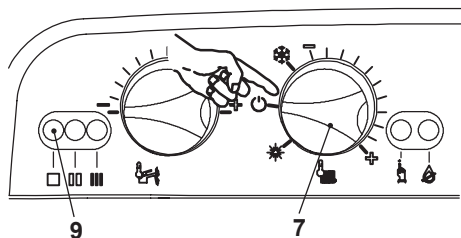

Fig. 7.4
- To turn the boiler off set the function selector 7 to the position shown in Fig. 7.4. The appliance operation light 9 will flash every 4 seconds.